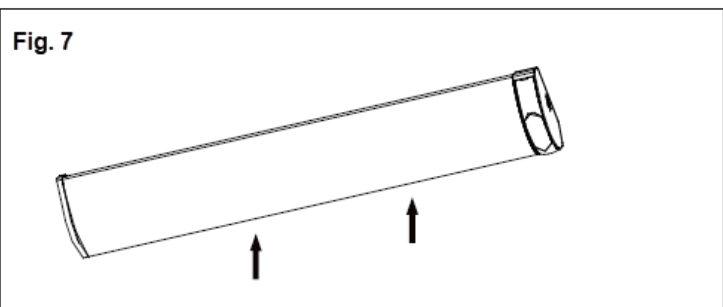

Fig. 7
8. Install the PC diffuser cover. (Fig. 7)